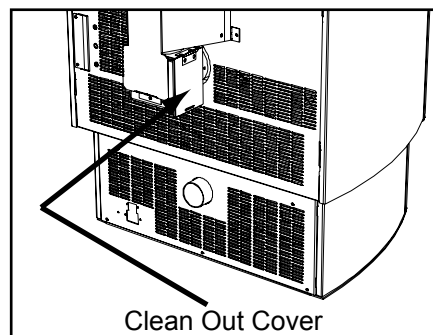

Figure 31.1
- b. Open the clean out cover. See Figure 31.1.